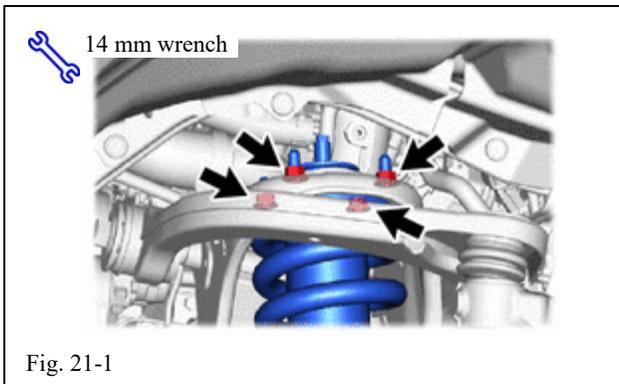

Fig. 21-1
- (a) Temporarily install front shock absorber assembly onto vehicle. Temporarily tighten the 4 nuts on the upper side of the front shock absorber assembly (Fig. 21-1).